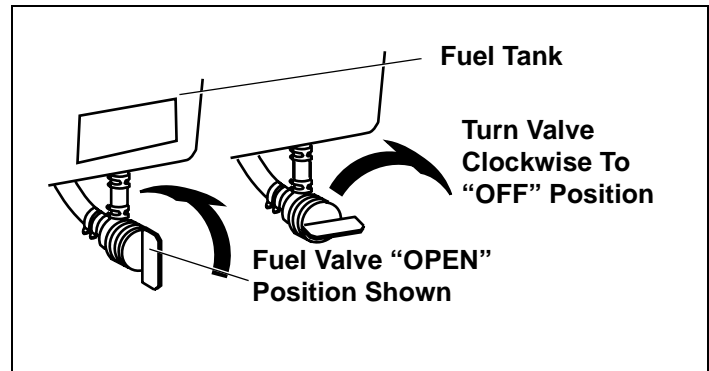

Figure 19. Fuel Valve Positions
2. Be sure fuel valve, if present (see equipment manufacturer’s instructions) is open and all switches are on. See Figure 19.